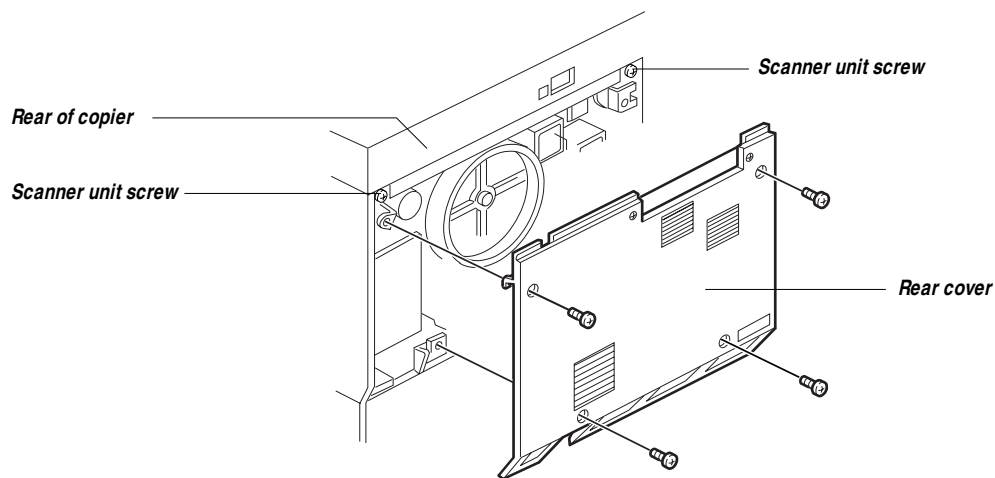

Figure 3-1 Removing the rear cover and scanner unit screws
5. ***While you are at the rear of the copier, remove the two screws that attach the scanner unit to the copier (see Figure 3-1).***